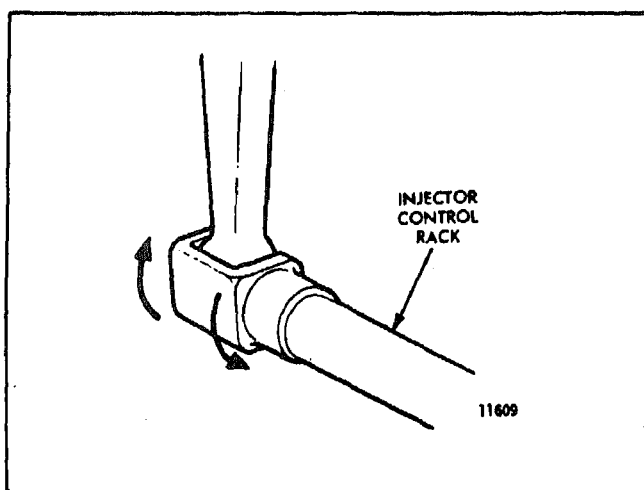
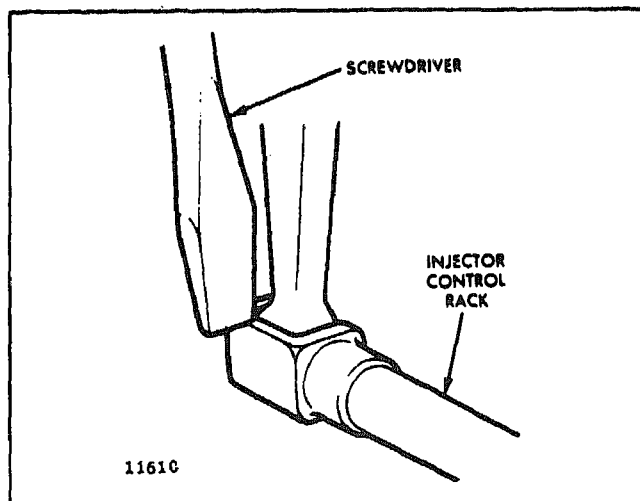

Fig. 3 - Checking Rotating Movement of Injector Control Rack
Fig. 4 - Checking Injector Control Rack "Spring"
4. To be sure of proper rack adjustment, hold the stop lever in the RUN position and press down on the injector rack with a screw driver or finger tip and note "rotating" movement of the injector control rack (Fig. 3). Hold the stop lever in the RUN position and, using a screw driver, press downward on the injector control rack. The rack should tilt downward (Fig. 4) and, when the pressure of the screw driver is released, the control rack should "spring" back upward.